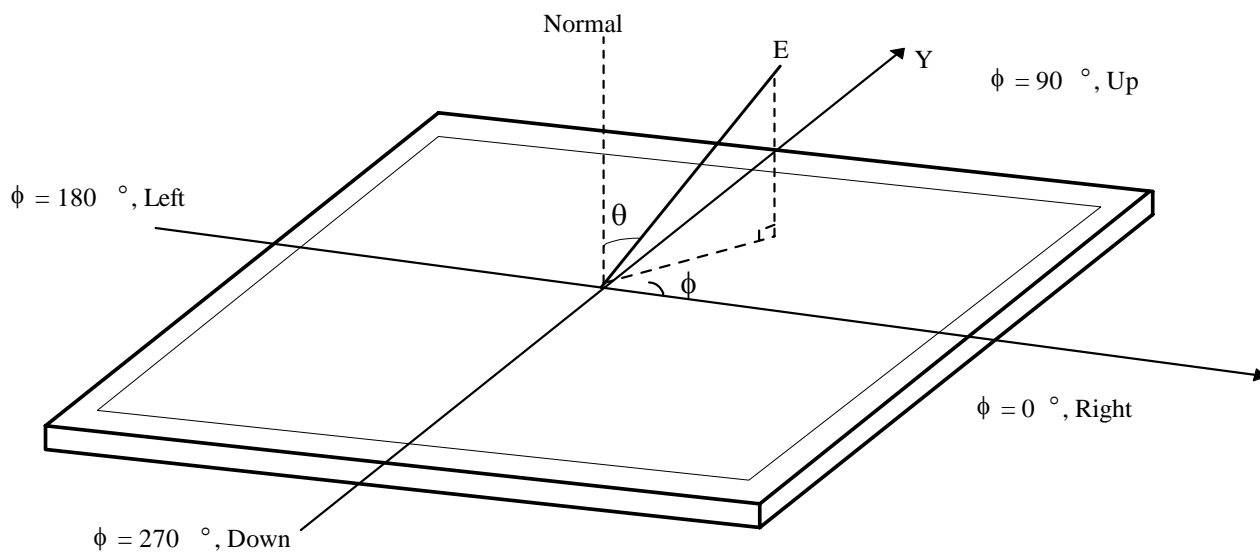

FIG. 3 Viewing Angle
6. Viewing angle is the angle at which the contrast ratio is greater than 10. The angles are determined for the horizontal or x axis and the vertical or y axis with respect to the z axis which is normal to the LCD module surface. For more information, see the FIG. 3.